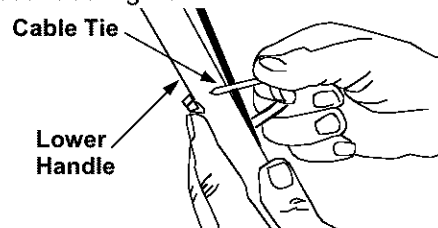

Figure 4
- Fasten the cables to the lower handle with the two cable ties found on the lower handle. Be sure to insert the post on the cable ties into the holes provided on the lower handle. These holes may be found on either the inside or the outside of the handles. Pull the cable ties tight and trim off the excess. See Figure 4.